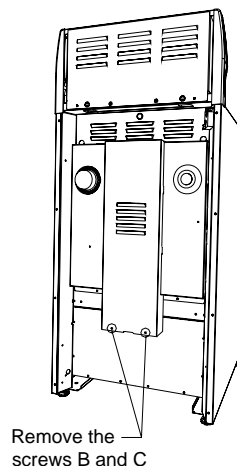

Figure 2
3. Remove the screws B and C located on Rear wire cover as is showed on Figure 2